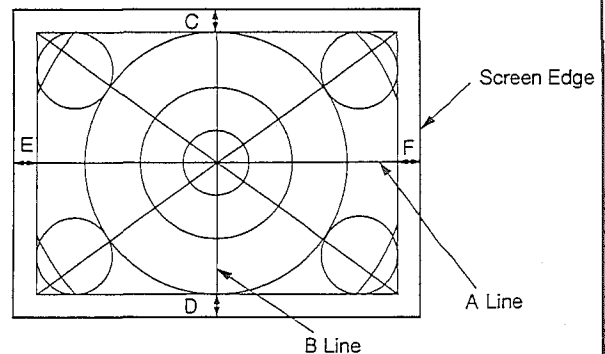

Fig. 2
11. Adjust the "V-POS1" so that the top and bottom edges of the picture shown in Fig. 2 do not disappear and the picture is positioned almost at the center. ("◀" or "▶" button).
12. Select the "H-POS1" and adjust so as not to position without returning at the left and right edges in Fig. 2. ("◀" or "▶" button)
15. Turn the Deflection Yoke (Green) to adjust so that Line A (a horizontal line at the middle of the picture) is horizontal in Fig. 2.